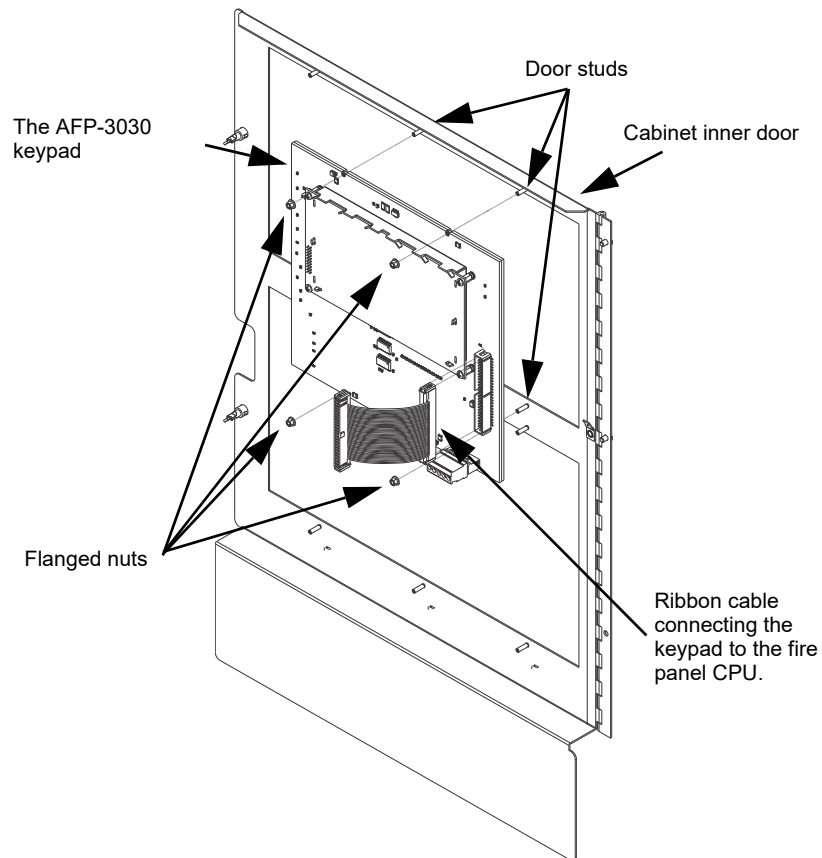

Figure B.8 Removing the fire panel keypad
b. The keypad from the studs as per Figure B.8.